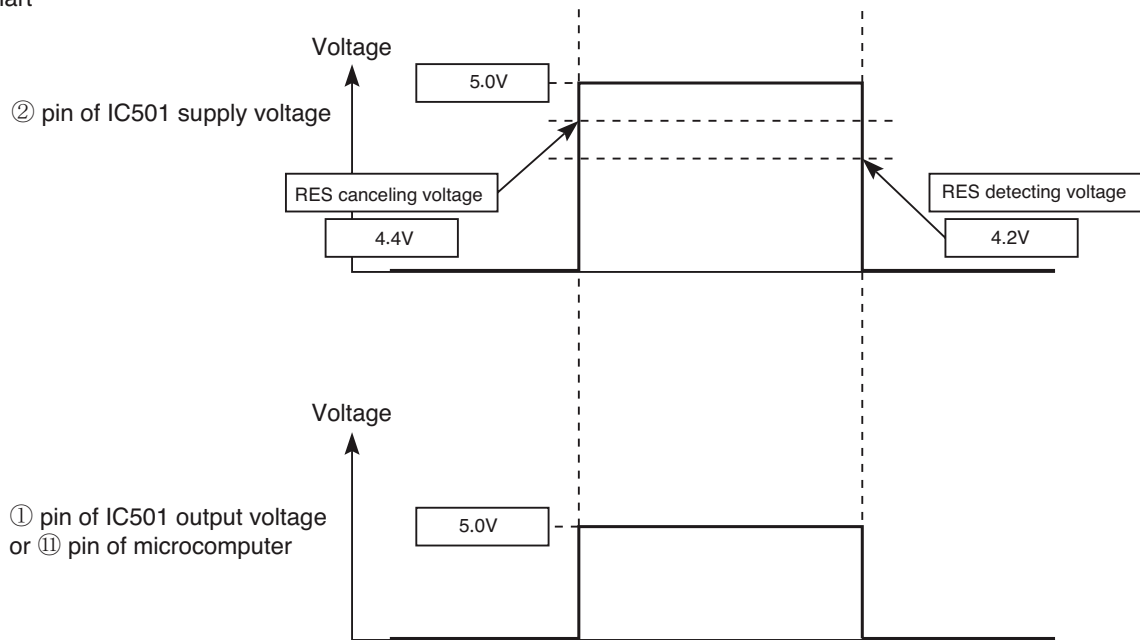

Fig.2-2
- Microcomputer operates when ① pin of the indoor unit microcomputer (reset input) is "Lo" for resetting and "Hi" for heating.
- Waveform of each part when switching ON the power and when shutting down is shown in the Fig. 2-2.
- After switching ON the power, ① pin of IC501 supply voltage and ① pin of microcomputer becomes Hi when DC5V line rises and reaches approximately 4.4V or higher. Then, resetting will be cancelled and microcomputer starts operating.
- After shutting down the power, ① pin of IC501 supply voltage and ① pin of microcomputer becomes Lo when DC5V line falls and reaches approximately 4.2V or lower. Then, the microcomputer will be in reset condition.